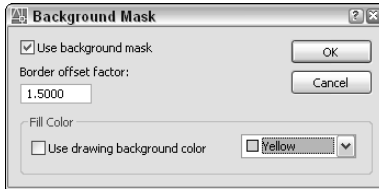

**Figure 13-17:** Use the Background Mask dialog box to create a background around your text so that other objects do not obscure the text.
- ♦ **Background Mask:** Opens the Background Mask dialog box, shown in Figure 13-17. This feature creates a background around your text that covers other objects so that you can easily read the text. Check the Use Background Mask check box. Specify a border offset factor to create a margin around the text. The default margin setting of 1 does not create any margin. Then check the Use Drawing Background Color check box to use the color of your drawing screen, or choose another color from the drop-down list. Click OK.